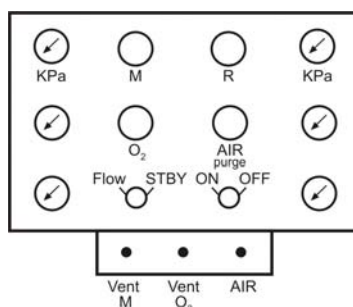

Figure 3-8. Elemental Analyzer 1108 - front panel
Figure 3-8 shows the front panel of the 1108 Elemental Analyzer.
2. Adjust the pressure regulator marked M at the front panel to 80 kPa (flow rate 80 mL/min-130 mL/min). See Figure 3-8.
4. Adjust the pressure regulator to a flow rate of 80 mL/min-100 mL/min. See Figure 3-8.
1. At the gas tank, adjust the oxygen pressure to 4 bar. See Figure 3-8.
To regulate compressed air, adjust the compressed air pressure (servo air) via IRMS or the central supply to about 4 bar. Use the pressure regulator marked AIR. See Figure 3-8.